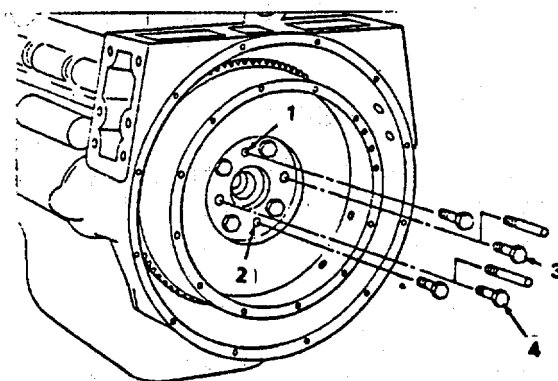

FIGURE 3-90. Flywheel Removal.
3-29. Replace Flywheel Housing Group. (FIGURES 3-90 through 3-92)
- b. Install two 1/2-13 x 1 1/2 puller capscrews which have a minimum of 1 1/4-inch threaded area at (1 and 2, FIGURE 3-90).
- c. Remove capscrews and washer (3) and (4), and install two 5/8-18 x 6-inch guide studs.
- f. Tighten puller capscrews (1 and 2, FIGURE 3-90) in alternating sequence to loosen the flywheel. Remove the flywheel.
REPLACEMENT (FIGURE 3-90)
- a. Install two 5/98-18 x 6-inch guide studs in the crankshaft flange (1 and 2, FIGURE 3-90).